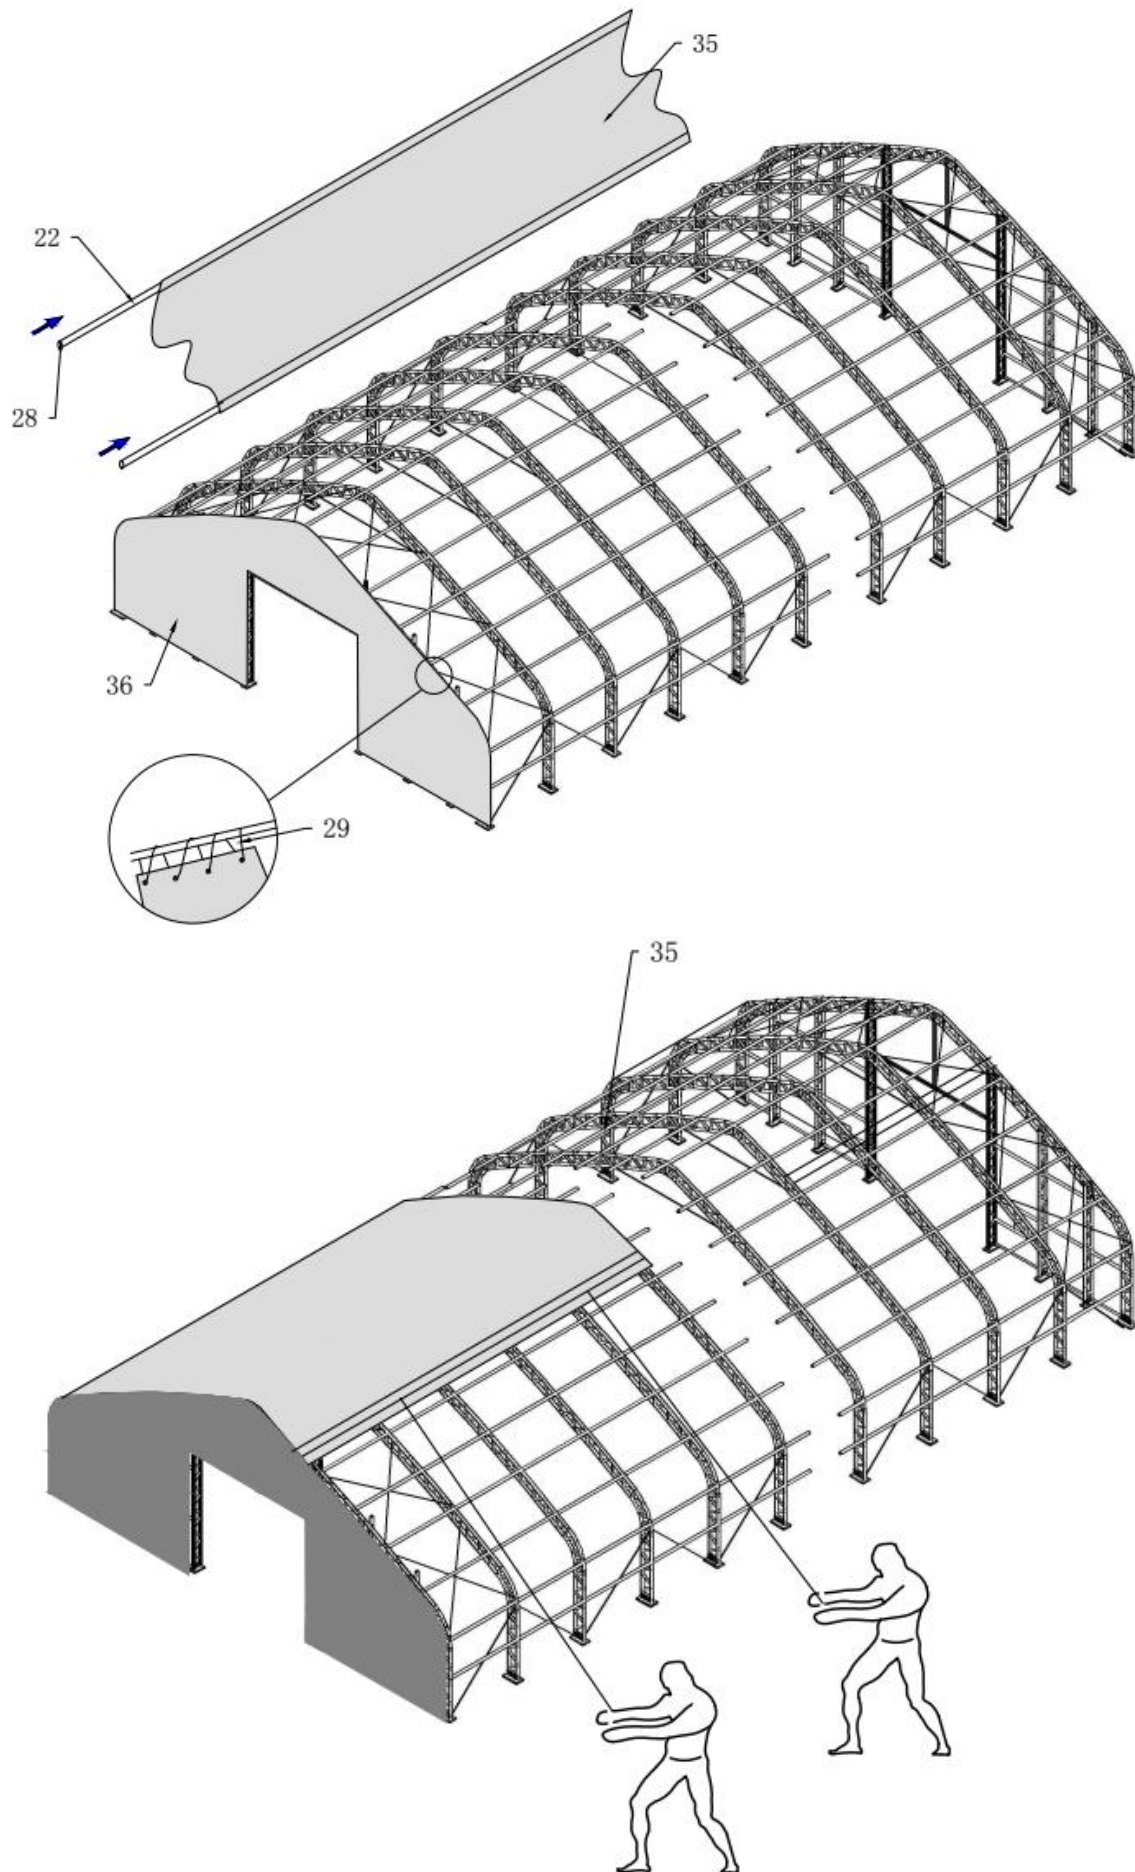
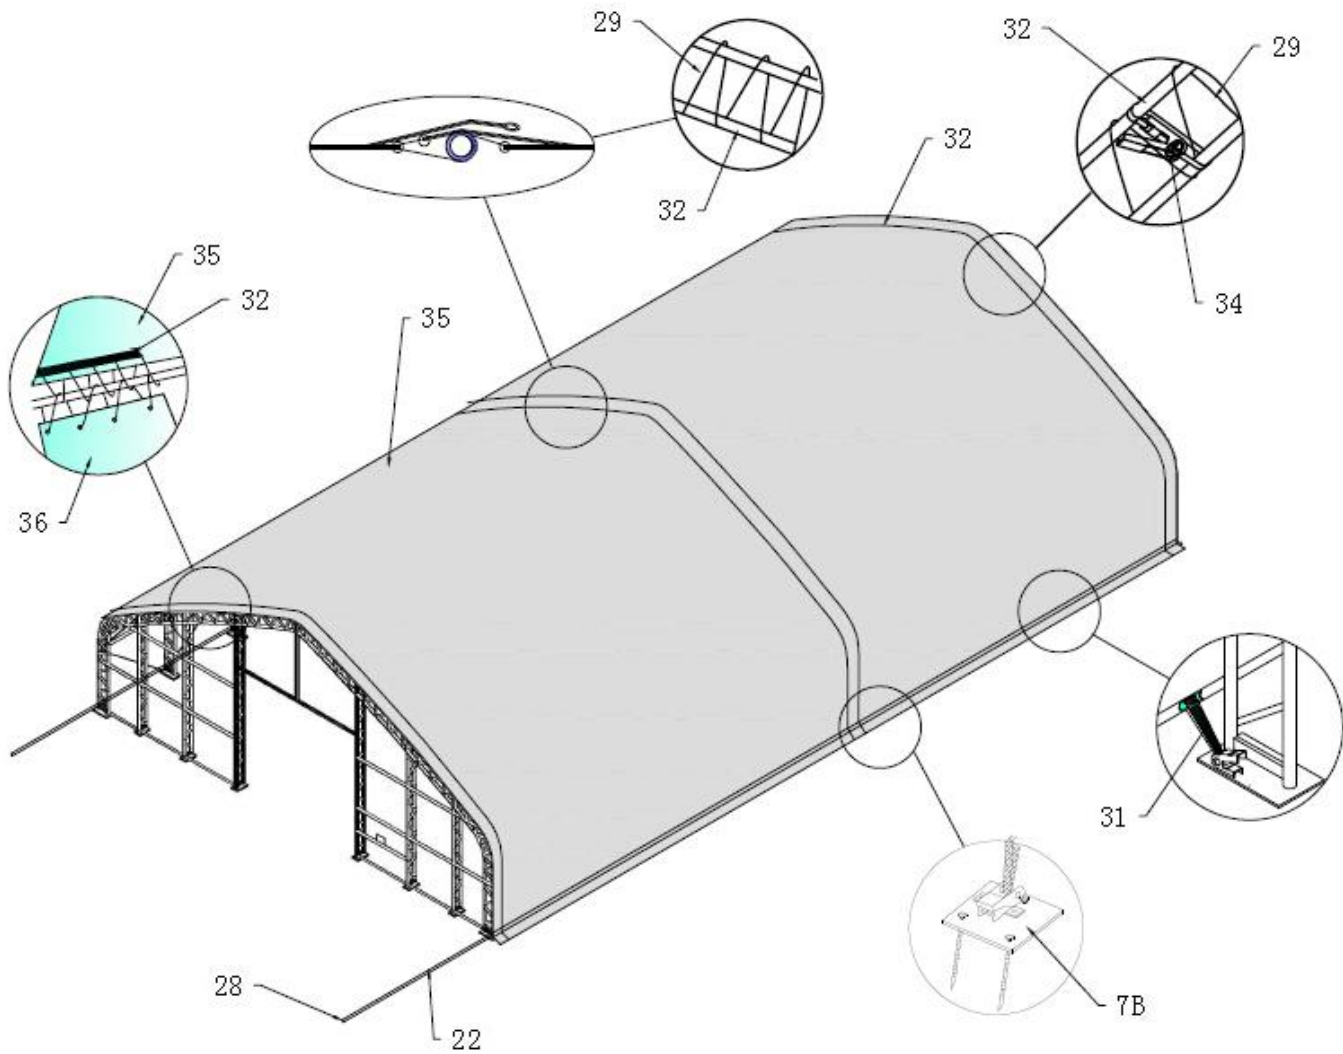

Figure 7
Figure 8
1. As Figure 7 shows, when two pieces of Roof cover is over top of Frame assembly (see Figure 7), insert the PVC tube(Part No.32)into pockets along both sides of Roof cover, find the Small ratchet(Part NO.34) to connect on PVC tube in Roof cover by parts.(see Figure 8).
3. Insert the Tensioning tubes(No.22),make the Roof cover well fold to the frame ,then put the Plastic caps(No.28) to end of tensioning tubes.(see Figure 8),then fix the ropes on frame by turns.